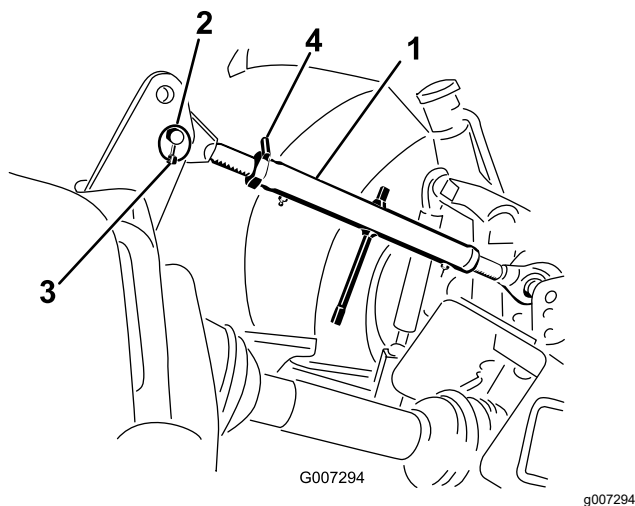

Figure 8
1. Connect the upper link to the lower hole in the bracket and secure it with the link pin and the lynch pin (Figure 8).
3. Rotate the upper link to tighten the link. Adjust it until the frame at the front of the machine is vertical (Figure 8).